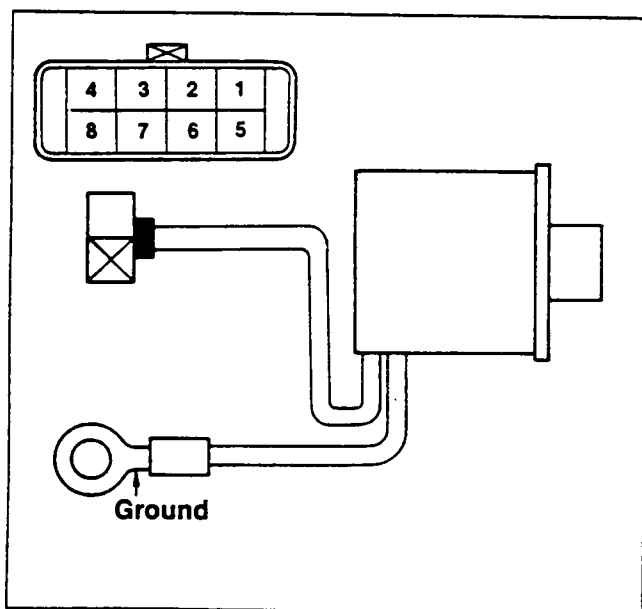

Figure 90. Lock-up Solenoid and Line Pressure Solenoid Resistance Check
Solenoid (Figures 90 and 91)
1. Check resistance across the lock-up solenoid and line pressure solenoid terminals using a circuit tester (figure 90).